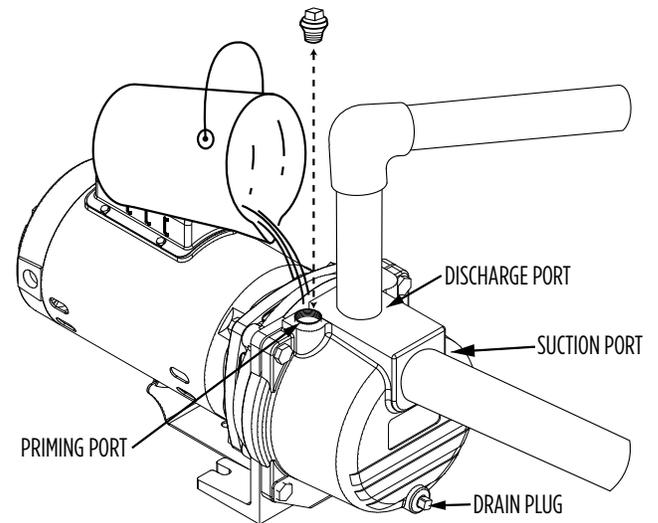

Figure 7
1. Remove priming port plug from pump (Figure 7).